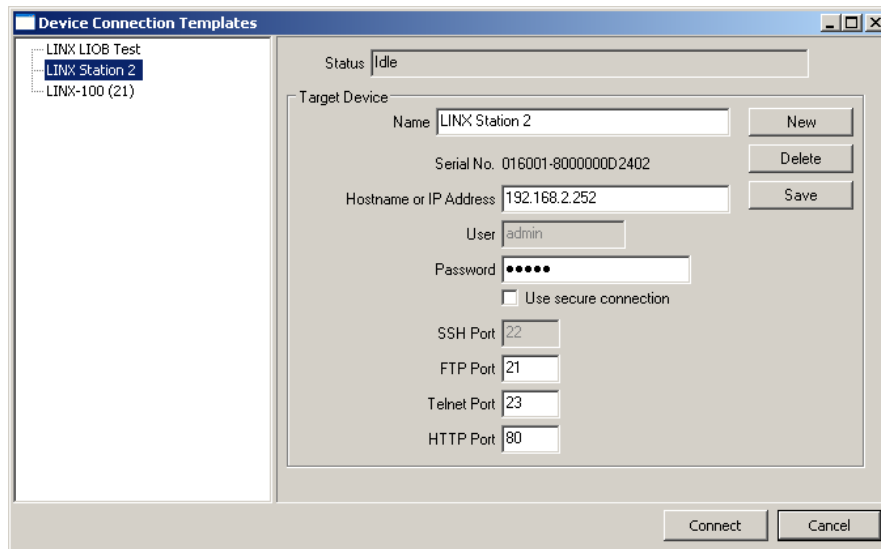

Figure 232: FTP connection dialog.
2. Select the menu: **Connection → Connect via FTP**. This opens the FTP connection dialog as shown in Figure 232.